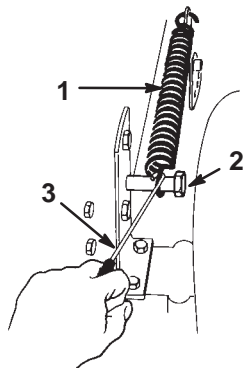

Figure 46
19. Hook the height-of-cut lift assist spring onto the retaining bolt (Fig. 46) using the spring tool provided with the tractor.